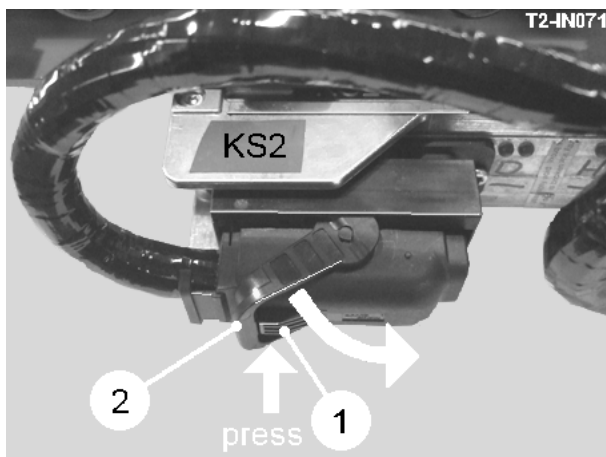
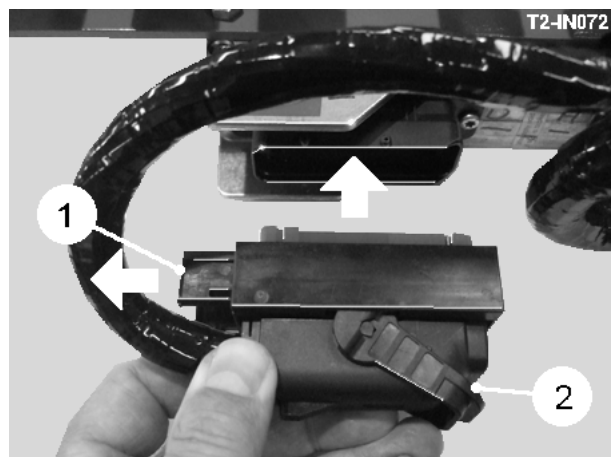

Fig 49
Fig 50
1. Press and hold the button (item 1, fig 49).
2. Fully rotate the lever (item 2, fig 49) to raise and release the plug.
1. Ensure the slider (item 1, fig 50) is fully out by rotating the lever (item 2, fig 49).
3. Rotate the lever (item 2, fig 50) to lower the plug fully into the socket. Continue until the lever is locked behind the button (item 1, fig 49).